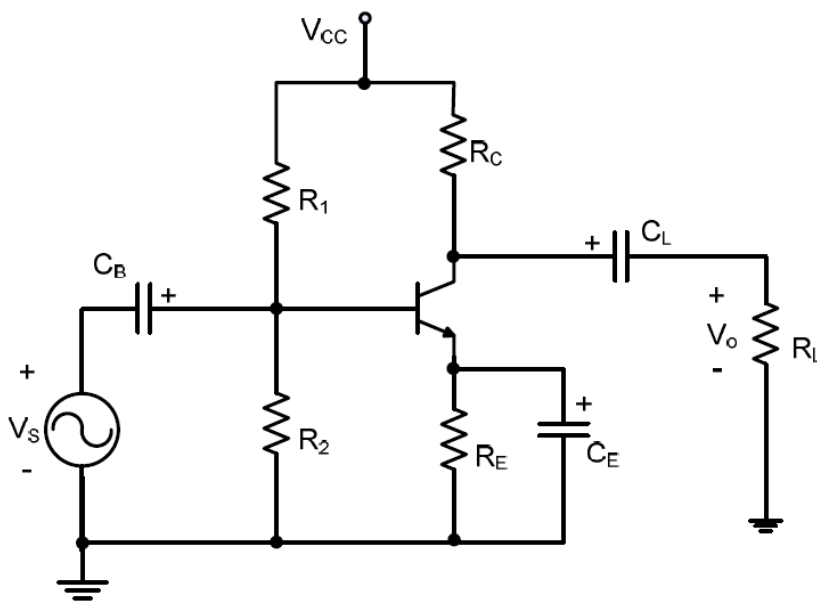

Figure 1: Common Emitter Amplifier
- All the preparation parts must be computed before the experiments part. Consider the circuit of Fig. 1.
A typical common emitter amplifier stage is shown in the Figure 1. The placement of the Q-point on the AC load line determines the maximum symmetrical AC component in the collector voltage and current.
- 1) Build the circuit in Fig.1 with the values you calculated in part (1) of the preparation. If necessary, re-adjust R_1 , R_2 so that $I_{CQ} \approx 1 \text{ mA}$.
- 3) Repeat (2) with C_E removed.
- 4) Replace R_1 , R_2 with the ones found in the pre-lab preparation part (4) and measure the new unclipped output.
- 5) Repeat (4) with C_E removed.
A variety of symbols are used for the MOSFET as shown in Figure 1. Sometimes three line segments are used for enhancement mode and a solid line for depletion mode. Another line is drawn parallel to the channel for the gate.
1. Construct the circuit shown in Figure 2 by using the **BS170 MOSFET**. (*Make sure the transistor is connected with the correct leads as shown in Figure 1*).